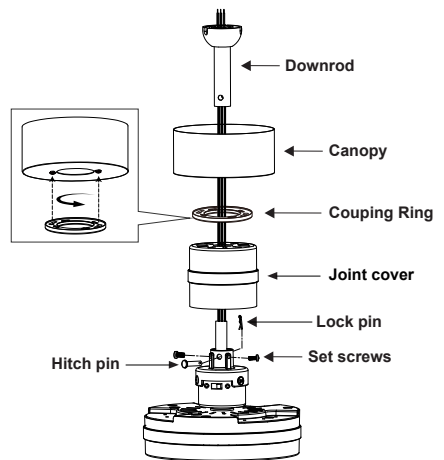

Fig.7
Step 4. Route wires exiting from the top of the fan motor through the canopy and then through the ball/downrod. (Fig.7)
Step 5. Align the holes at the bottom of the downrod with the holes in the collar on top of the motor housing. Carefully insert the hitch pin through the holes in the collar and downrod. Be careful not to jam the pin against the wiring inside the downrod. Insert the locking pin through the hole near the end of the hitch pin until it snaps into its locked position. (Fig.7)